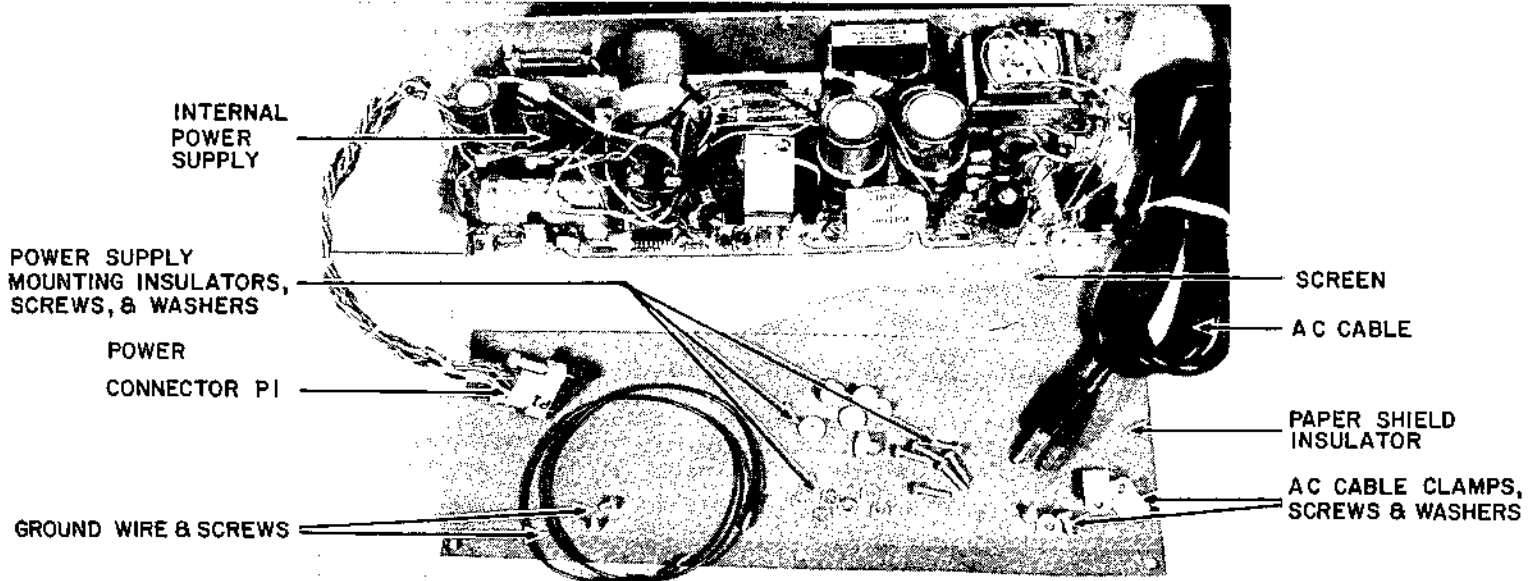

Figure 5-54 INTERNAL POWER SUPPLY #24250-XX INSTALLATION PARTS
1. Assemble and identify the various parts needed for installation of this option, as shown in Figure 5-54.